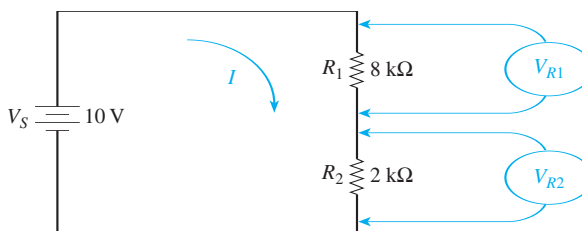

Figure 3 A series circuit used to derive the voltage divider equation.
Find the current in the circuit (I), the voltage across R_1 (V_{R1}), and the voltage across R_2 (V_{R2}) in Figure 3.
3. In a series voltage-divider circuit like Figure 3, the larger resistor will have the larger voltage across it. True or false?
4. In Figure 3, if R_1 is changed to $8\text{ M}\Omega$ and R_2 is changed to $2\ \Omega$, V_{R_2} will be close to _____ ($0\text{ V}/10\text{ V}$).